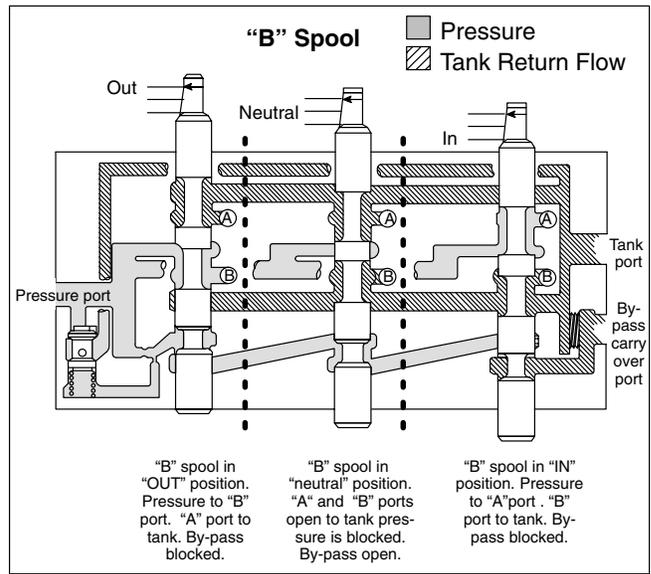

Figure 3.
a. **“B”- Motor Spool** - “B” spools are used when flow is directed to the operation of a hydraulic motor instead of a cylinder. These spools are double acting in character so that the motor may be rotated in either direction. The cylinder ports are left partially open in the neutral position to allow free flow of oil between the motor and reservoir. See Figure 3 for spool position vs. flow characteristics.